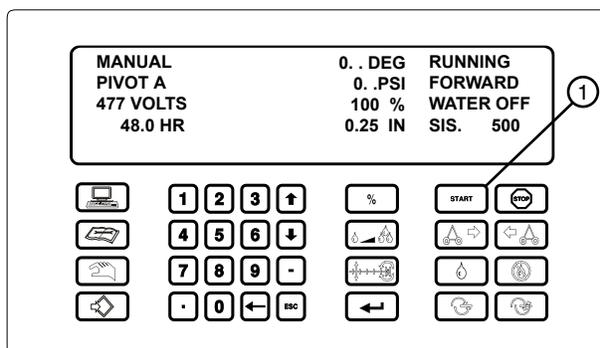

Figure 80-3 1. START Key
7. Press  to start the machine in the pivot mode. See Figure 80-3.